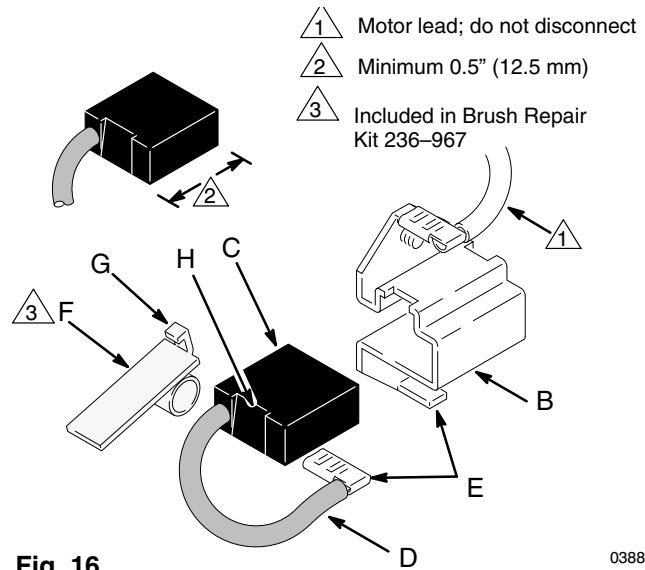

Fig. 16 03881
2. Push in the spring clip (F) and release its hook (G) from the brush holder (B). Pull out the spring clip. See Fig 16.
3. Slide off the brush lead terminal (E) off the blade connector. Remove the old brush (C). See Fig 16.
6. Place a new brush (C) in the holder (B) so the ramp (H) faces the spring. See Fig. 16.